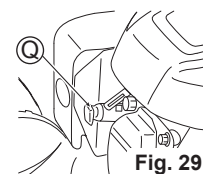

Fig. 29
- Remove Plug cap (Q). (See Fig. 29)